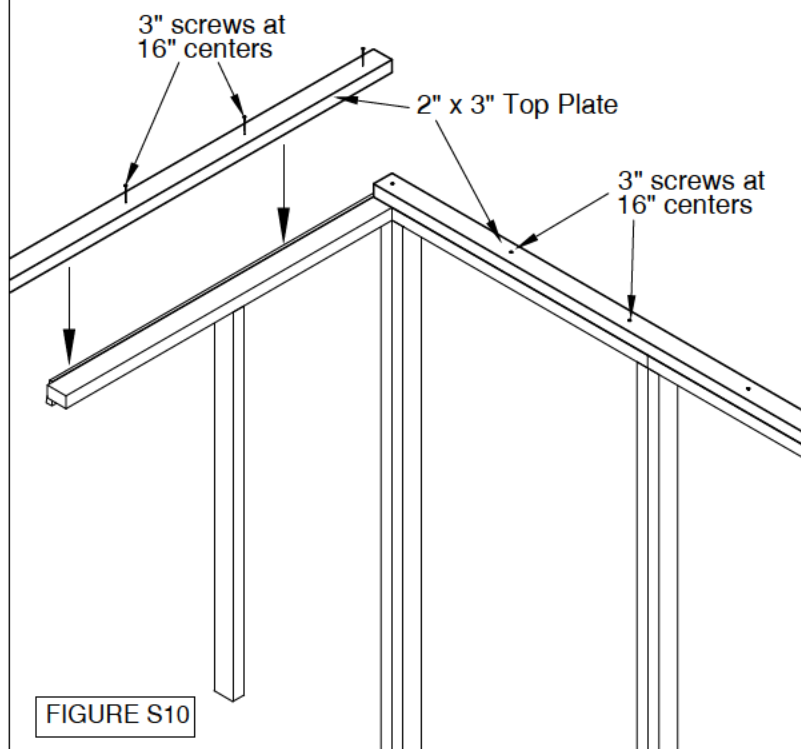
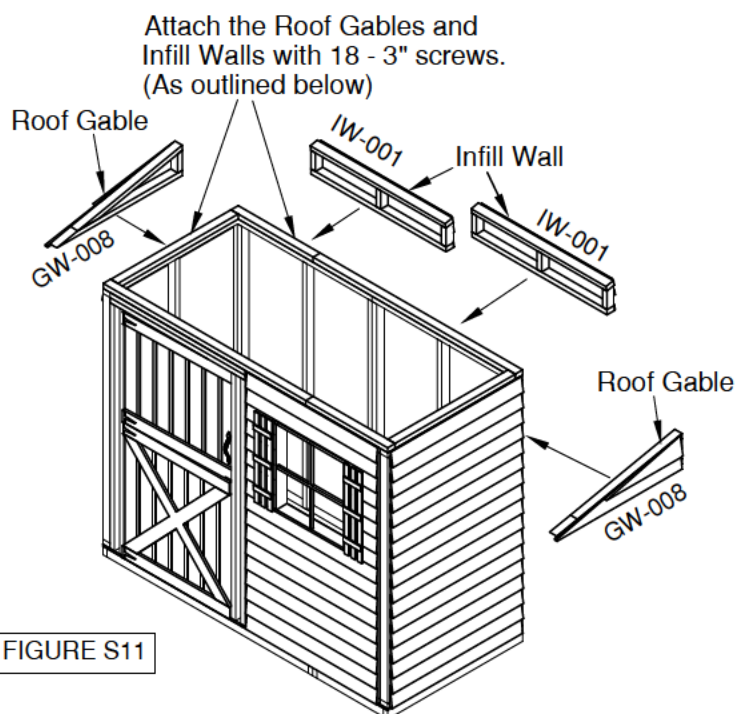

FIGURE S10
FIGURE S11
- When all the Door and Wall Panels are standing, you will now attach the 2" x 3" Top Plates (FIGURE S10 & FIGURE S11)